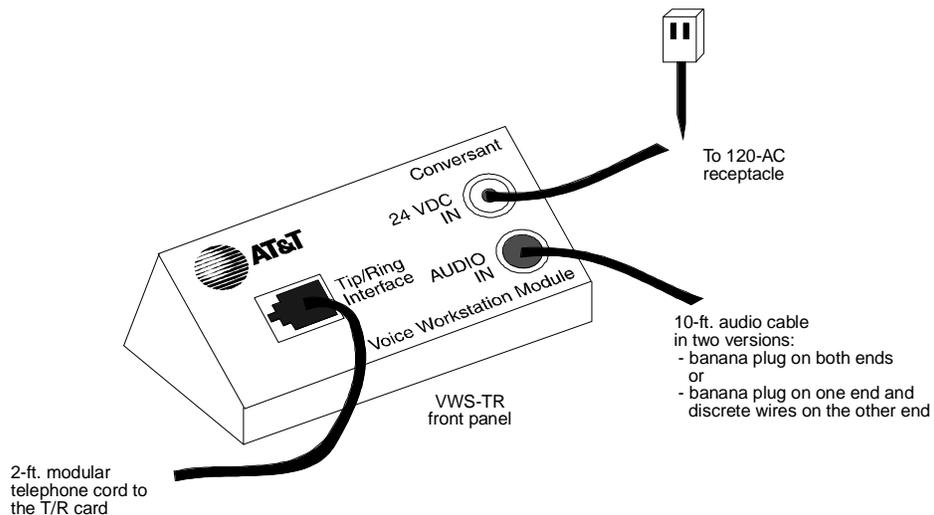

Figure 7-8. Voice Workstation System, Tip/Ring Interface Module
- Audio Jack Kit (see Figure 7-8); this includes:
3. Plug the other end of the audio cable into the AUDIO IN connector of the VWS-TR interface module (Figure 7-8).